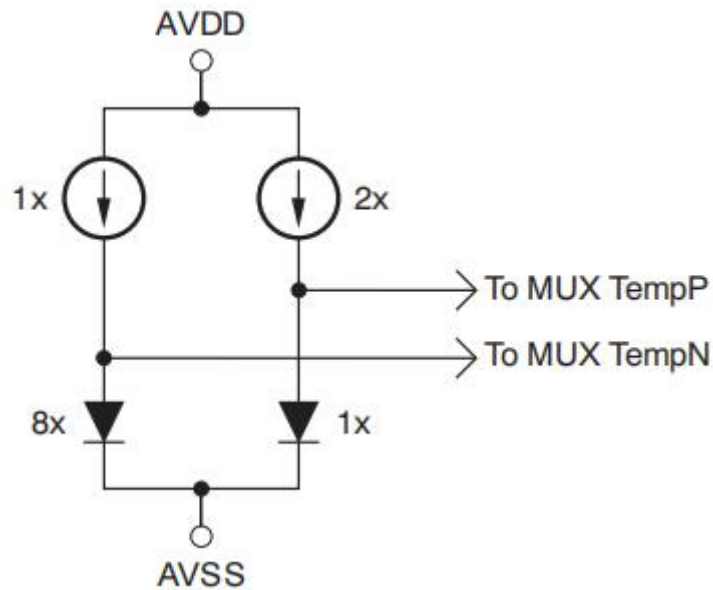

Figure 9.3.2 Illustration of Temperature Sensor Measurement Inputs
(1) Chip Noise Measurement Setting CHnSET[2:0] to 001 shorts the P/N terminals of the channel and sets a common-mode voltage of $[(V_{VREFP} + V_{VREFN})/2]$ for both channel inputs. This configuration can be utilized for testing the inherent noise of the chip.
(2) Test Signal (TestP and TestN) Configuring CHnSET[2:0] to 101 introduces an internally generated test signal to the P/N terminals of the channel. Details regarding the internal test signal can be found in the CONFIG2 register description.
(3) Temperature Sensor (TempP, TempN) The CBM24AD98Q incorporates an on-chip temperature sensor, which employs two internal diodes, with one diode having a current density sixteen times that of the other, as depicted in Figure 9.3.2. The disparity in diode current densities generates a voltage difference proportional to the absolute temperature. Owing to the low thermal resistance from the package to the printed circuit board (PCB), the internal chip temperature is closely correlated with the PCB temperature. Note that self-heating of the CBM24AD98Q can lead to internal temperature readings higher than the ambient temperature of the surrounding PCB. Setting CHnSET[2:0] to 100 routes the temperature sensor signals to the P/N terminals of the channel.